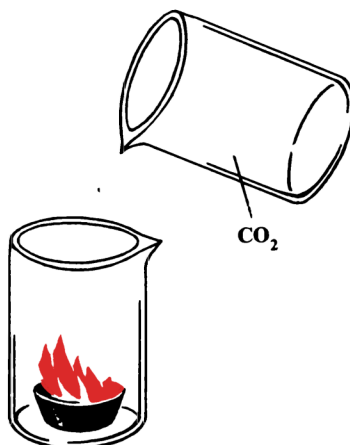

Fig. 4.5 Fire extinguishing with carbon dioxide
Carbon(IV) oxide or CO_2 has the structural formula $\text{O}=\text{C}=\text{O}$ and is a colourless gas. It is heavier than air and can be poured from one vessel to another like an invisible liquid. If we pour carbon dioxide from a beaker over alcohol burning in a dish (Fig. 4.5), the flame is immediately extinguished.